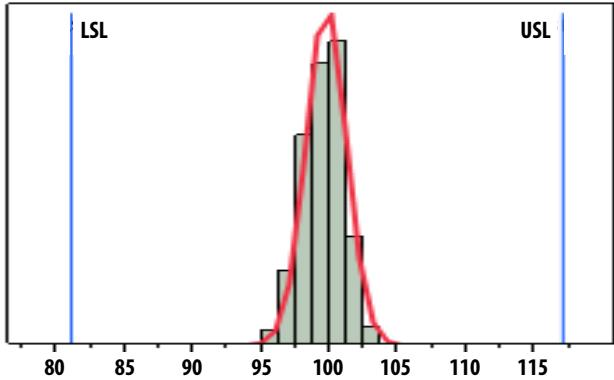

Figure 1. Idd, LSL = 81 mA , nominal = 100 mA, USL = 117 mA
RF performance at T_A = 25° C, V_{dd} = 5 V, 1980 MHz, measured on demo board in Figure 1 with component listed in Table 1 for DC bypass.
1. Measurements at 1980 MHz obtained using demo board described in Figure 1.